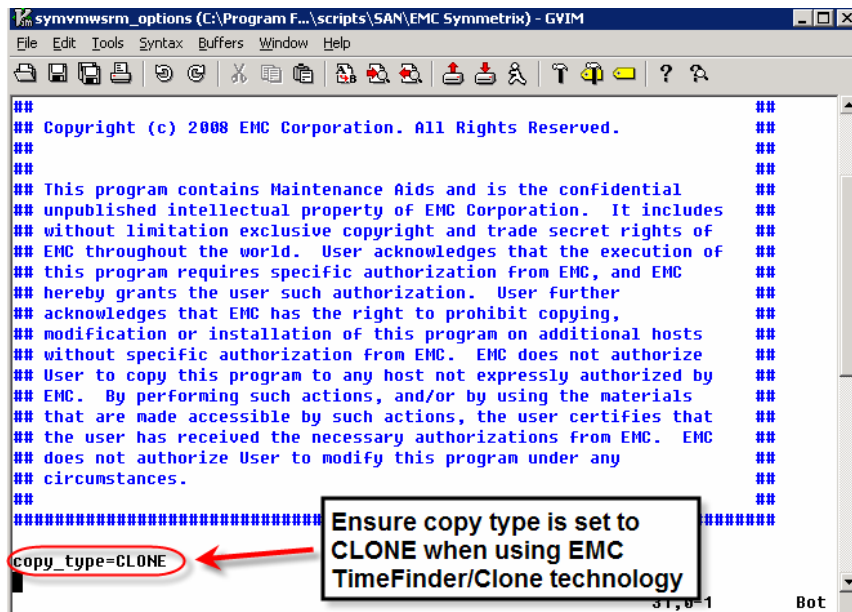

Figure 14. Directing EMC SRDF Adapter to utilize clones when testing recovery plans
3. Add the option “copy_type=CLONE” in the options file, symvmwsm_options. This is shown in Figure 14 for the VMware Infrastructure used as an example for this white paper.